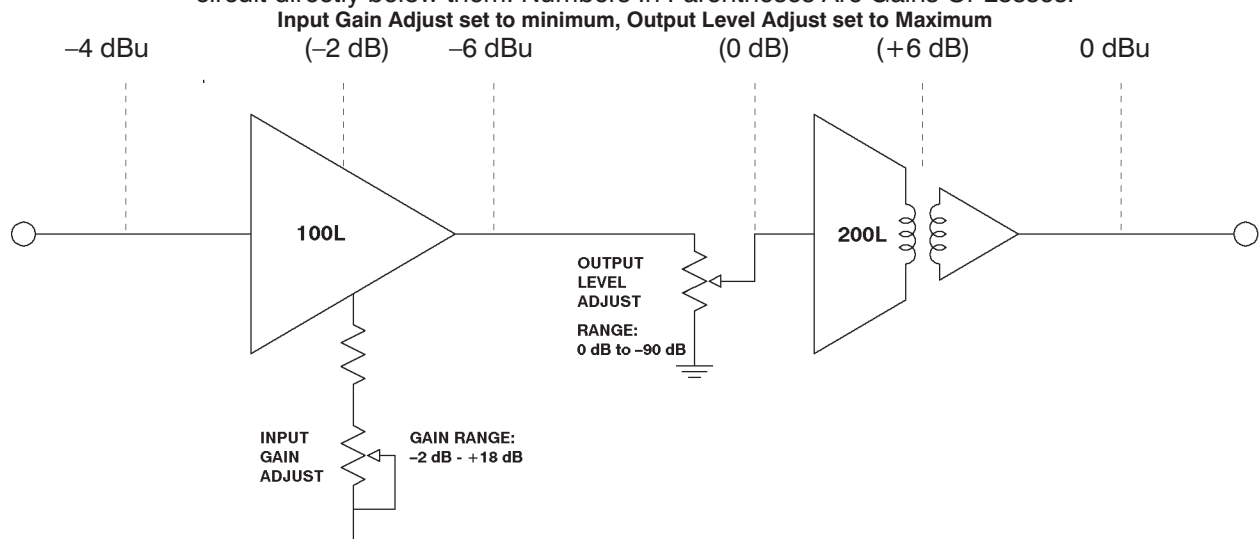

Figure 2 - Gain Structure
1. Locate a proper slot in the mainframe. Mainframe slots are set up on the rear panel of the mother board according to the card type to be used. Slots are dedicated by installing the proper trimpots. Trimpots **MUST** be installed as indicated in Figure 2 and 3 for inputs and outputs to function. Microphone level inputs require 200 $\Omega$  trimpots. All others require 10 k $\Omega$  trimpots. Slots labels are applied at the factory above each slot position. Single input cards such as the 5101, 5101-8, and the 5151 are labeled 'SPECIAL', as are any specially made cards. With the exception of the SPECIALS, cards may be inserted in any slot with a matching label.
The gain structure diagrams in Figures 2 - 5 show the signal levels and gains or losses at key points in the cards. Since all inputs on a card behave identically, only one input is shown in the diagrams. In the examples the Input Gain Adjust pots were set for minimum gain (fully counterclockwise), and the Output Level Adjust pots at maximum output (fully counterclockwise). The levels and gains shown are those required to produce an output level of 0 dBu.